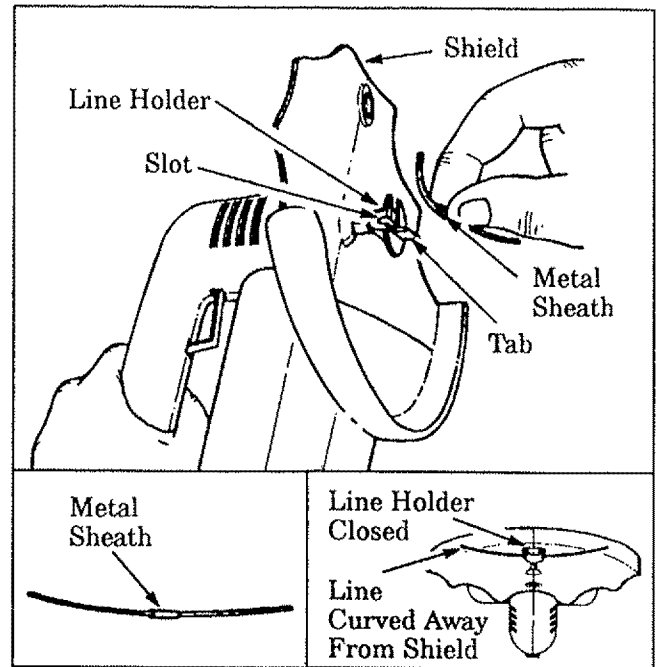

Figure 1
1. Hold the tool with the Line Holder toward you. Figure 1.
2. Lift the Tab on the Line Holder. Figure 1.
NOTE: When performing step 3, make sure trimmer lines that are curved are installed with the ends of the trimmer line curved away from the shield. Figure 1 (inset, lower right). If the line contacts the shield when the unit is running, stop the motor and reinstall line until it no longer contacts unit while rotating.
3. Place the metal sheath (on the trimmer line) into the slot in the Line Holder. Figure 1 (inset, lower left).
4. Push the Tab down to the closed position. Figure 1 (inset, lower right).